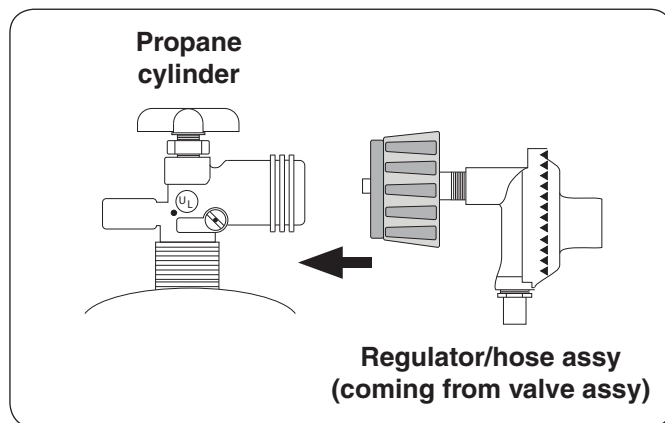

Fig. 20-3 Connecting to an L.P. Cylinder
- Route the hose assembly down through the hole in the hearth. Attach the regulator end of the hose assembly to a propane cylinder (not included) and tighten (see Fig 20-3 and 20-4).
- Route the hose assembly out through the rear of the unit. Attach the regulator end of the hose assembly to a propane cylinder (not included) and tighten (see Fig 20-3).